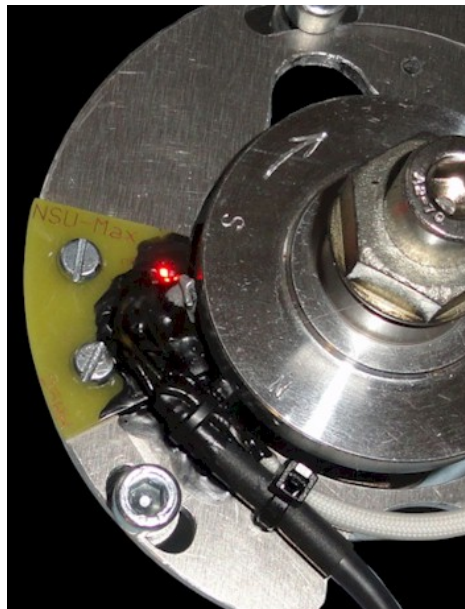

**Figure 3** Ensure correct alignment of magnet disk and sensor.
- Take care that the magnets in the disk are approximately in the same height as the sensor, see figure 3 on page 9.